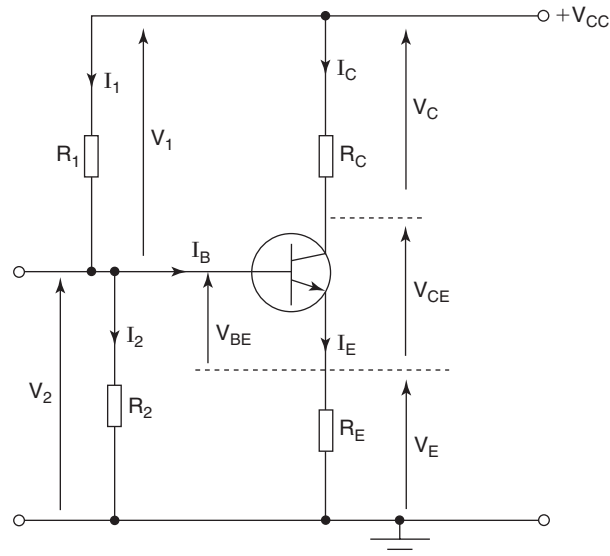

Fig. 6
A circuit showing this method of biasing is shown in Fig. 6 and this is by far the most common biasing technique employed in practice.
- Q** For the circuit of Fig. 6 the transistor has a current gain, $h_{FE} = 80$ and the collector supply voltage, $V_{CC} = +10\text{V}$. The required bias conditions are $V_{BE} = 0.7\text{V}$, and $I_C = 1\text{mA}$. Determine suitable values for resistors R_1 , R_2 , R_E and R_C .